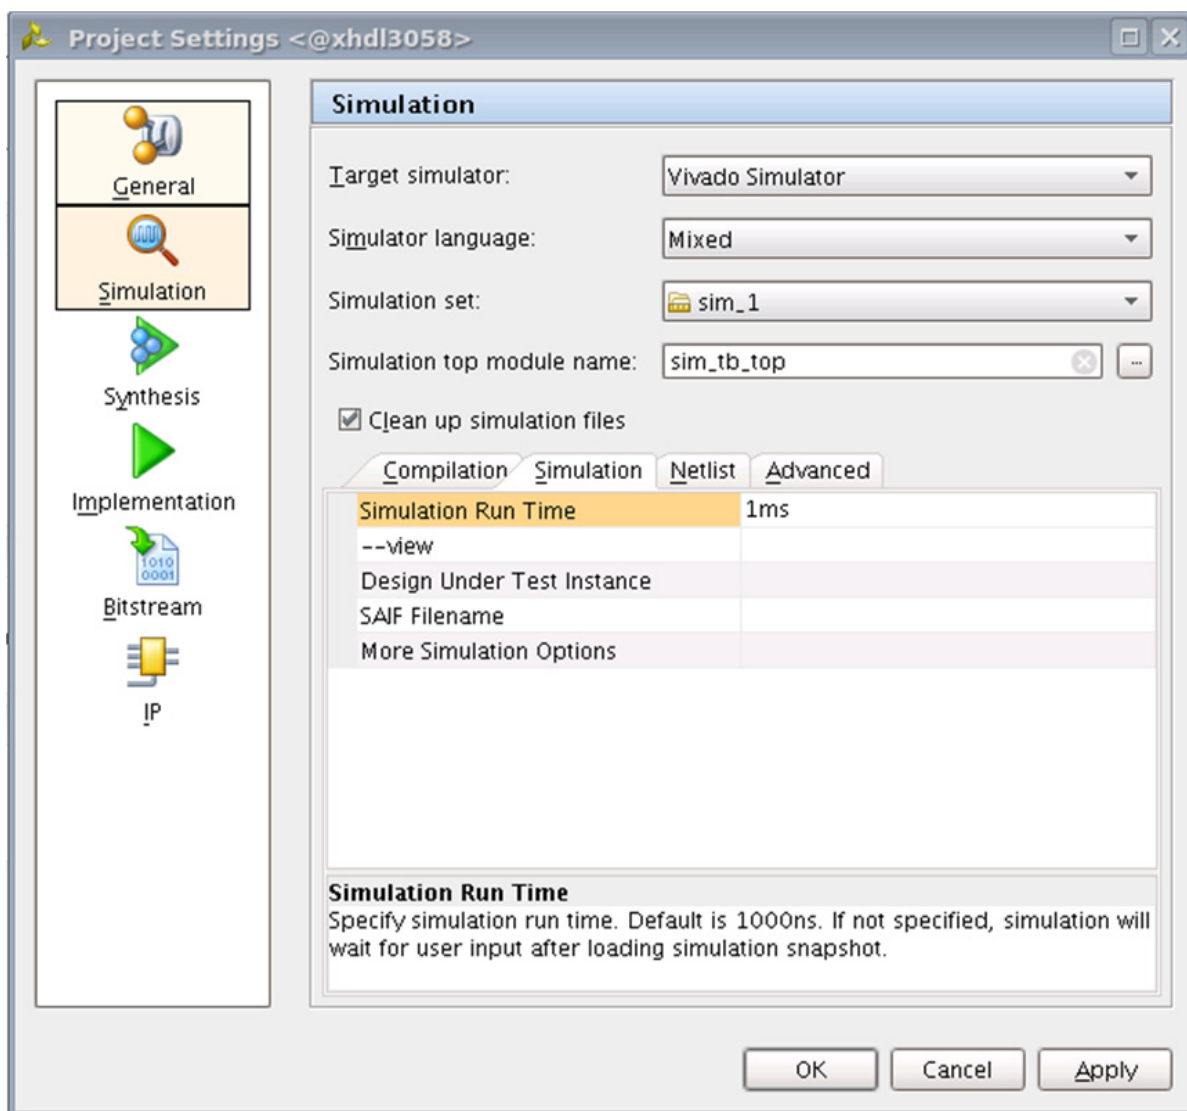

Figure 3-63: Simulation with Vivado Simulator
1. In **Open IP Example Design** Vivado project, under **Flow Navigator**, select **Simulation Settings** (Figure 3-63).
2. Under the **Simulation** tab as shown in Figure 3-63, set the **Simulation Run Time** as 1 ms (there are simulation RTL directives which stop the simulation after certain period of time, which is far less than 1 ms). Apply the settings and select **OK**.
- b. Under the **Simulation** tab, set the **Simulation Run Time** to 1 ms (there are simulation RTL directives which stop the simulation after certain period of time, which is far less than 1 ms), set **More Simulation Options** to **-novopt** as shown in Figure 3-63.